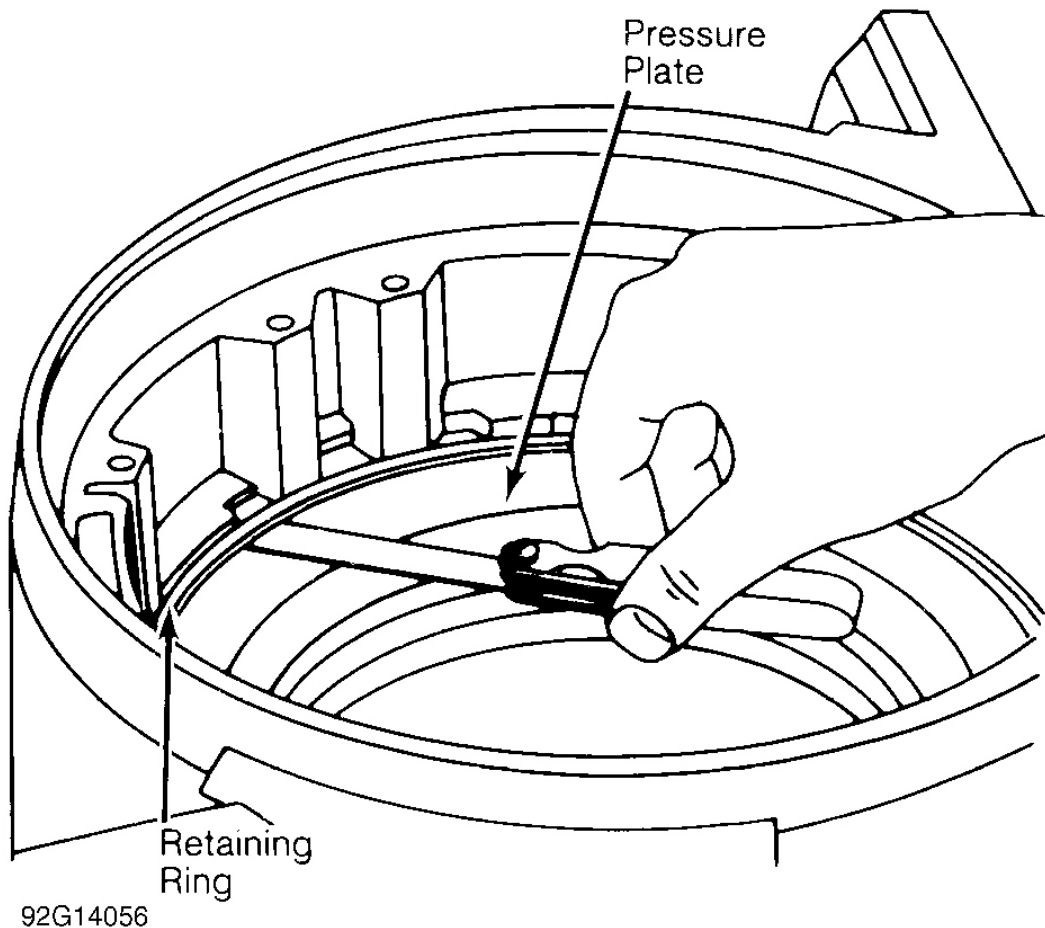

Fig. 16: Measuring Reverse Clutch Clearance
7. Install clutch pack wave spring, clutch pack and pressure plate then install clutch pack retaining ring. Clutch pack contains 3 friction and 3 steel plates. Using a feeler gauge, measure clearance between retaining ring and pressure plate at 2 places 180 degrees apart. See **Fig. 16**.